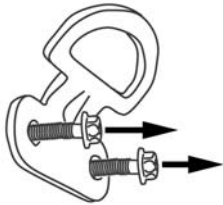

Figure 1
- 1) Remove the four (4) tie-down hooks located at the front and rear sidewalls. Save all hardware to be re-installed. (See Figure 1).